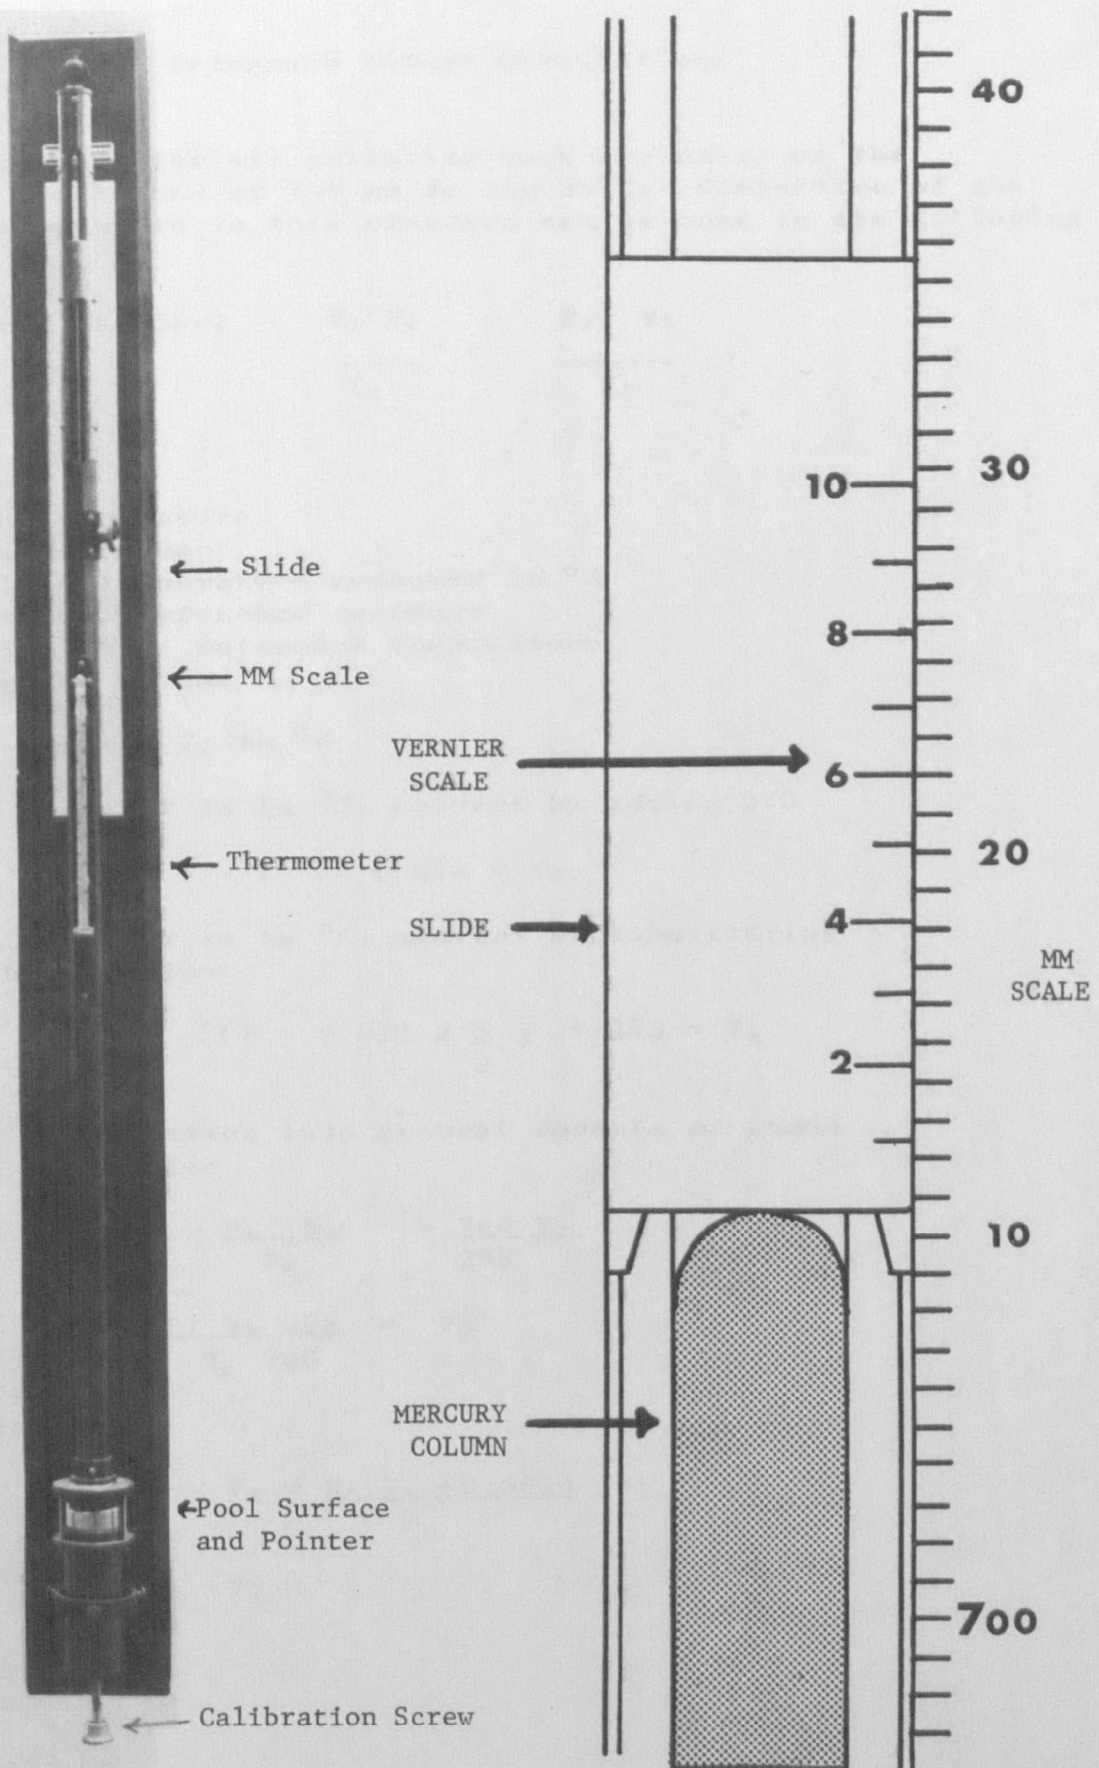

Figure 5
**Step #2:** Adjust the slide to the top of the mercury by rotating the knob on the right hand side of the tube. The bottom of the slide should be level with the very top of the mercury. See Figure 5.
**Step #3:** Read the right hand scale at the bottom of the slide to the nearest whole millimeter (mm). For example, Figure 5 has a reading of 710 mm.
**Step #4:** Read the vernier scale at the one place where the best matching of lines with the millimeter scale exists. For example, in Figure 5, this is at the 6 on the vernier scale and is read as 0.6 mm.